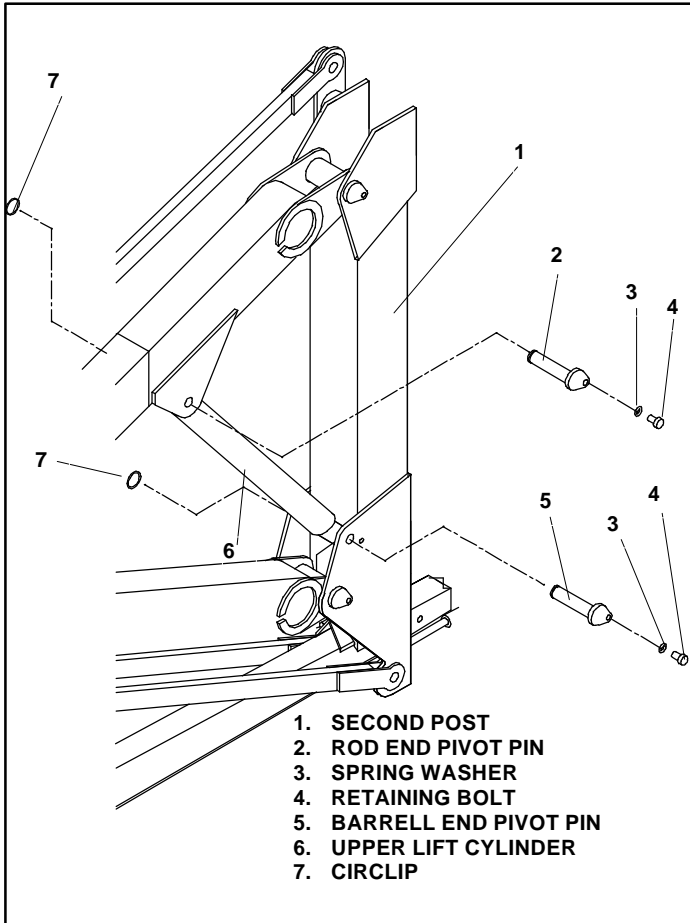

Figure 4-13: Upper Lift Cylinder
4.11 Upper Lift Cylinder (Figure 4-13)